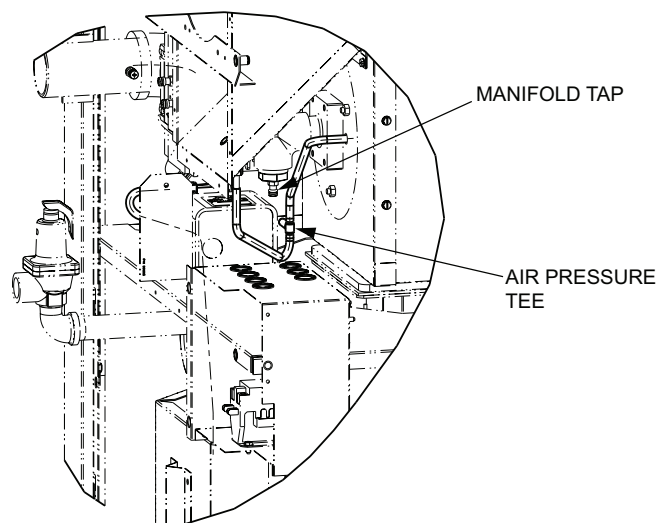

Fig. 56: Air Pressure Tee
4. Attach (1) 12" scale manometer on the fan suction pressure hose. Pull black cap from the air pressure tee as shown in Fig. 56 and connect the manometer. NOTE: Retain caps for reinstallation later.